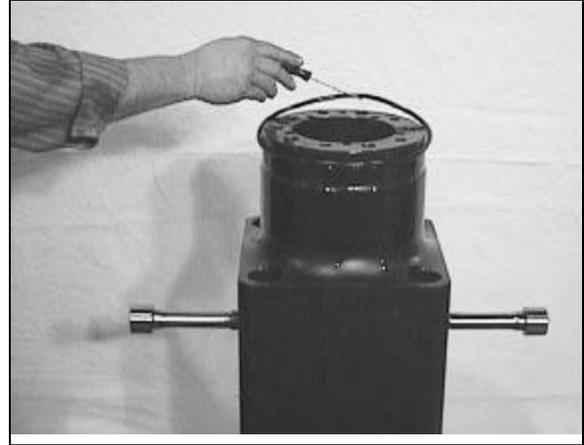

Figure 08-33: Install Cylinder O-ring
3. Install the O-ring (Position 303) onto the Cylinder (Position 201). (Figure 08-33)